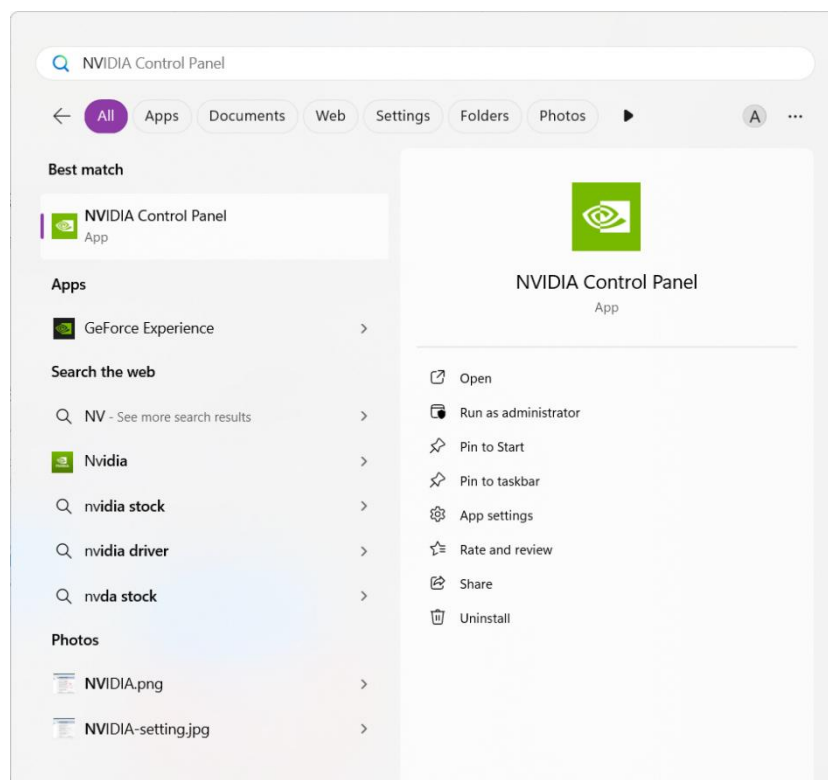

Figure 4-9 NVIDIA Control Panel
1. Search for NVIDIA Control Panel and open it, as shown in Figure 4-9.